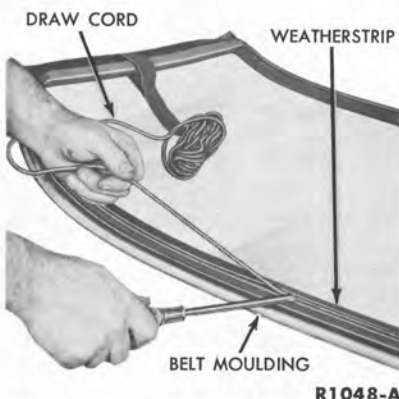

FIG. 22—Draw Cord Installation
9. Insert the draw cord in the weatherstrip (Fig. 22), and apply Ru-Glyde to the weatherstrip surfaces that will contact the windshield opening flange.